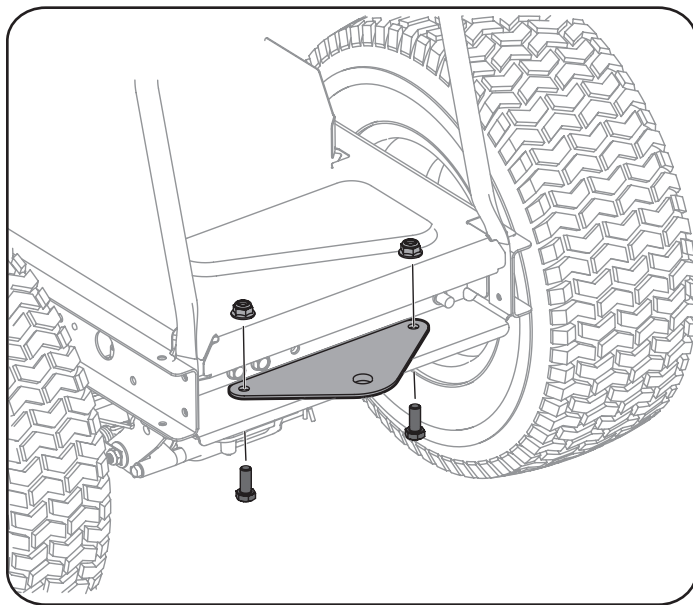

Figure 13
2. Position the hitch plate, packed with the loose parts, with the flat side up as shown in Figure 13. Secure using the two bolts and hex nuts previously removed.